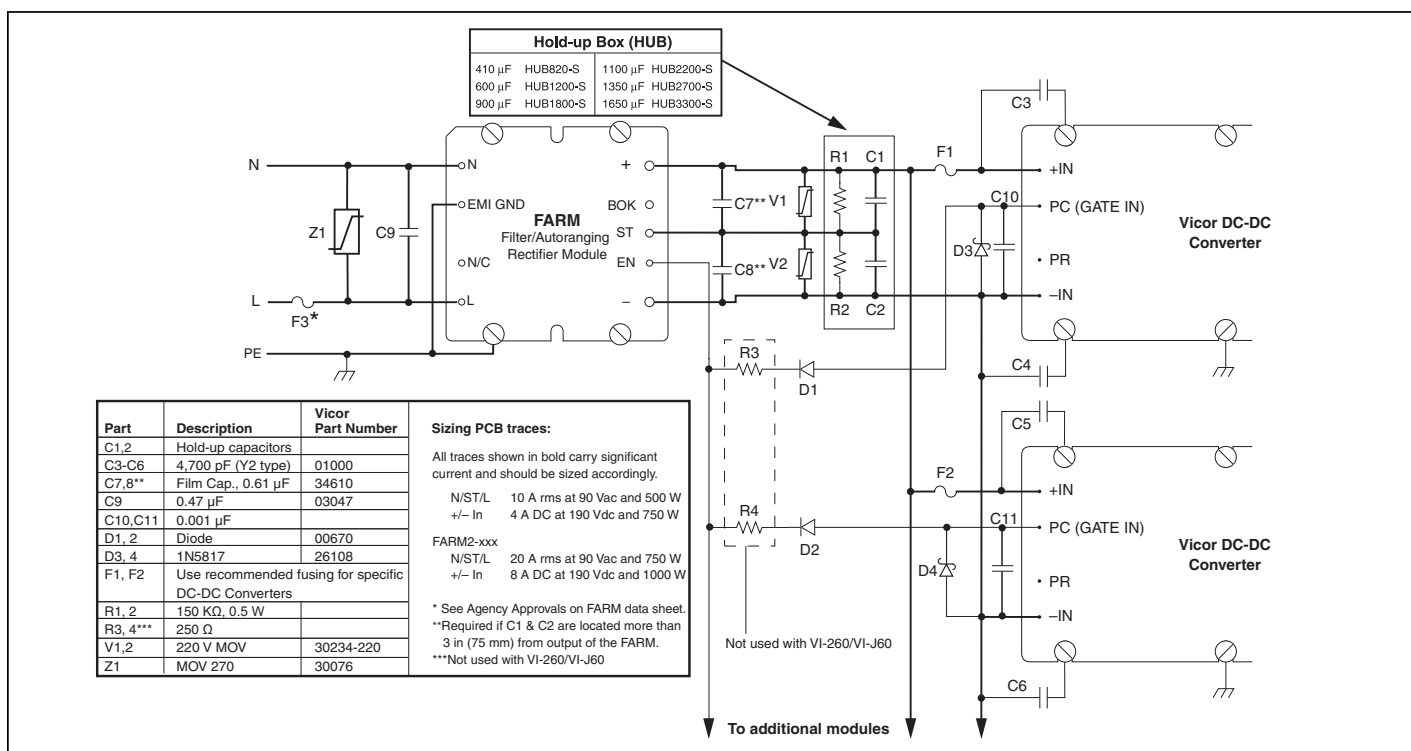

Figure 9 — Offline Power Supply Configuration
Strap (ST) Pin. In addition to input and output power pin connections, it is necessary to connect the Strap pin to the center junction of the series hold-up capacitors (*C1, C2, see Fig. 9*) for proper (autoranging) operation. Metal oxide varistors, *V1* and *V2* provide capacitor protection. The bleeder resistors (*R1, R2, see Fig. 9*) discharge the hold-up capacitors when power is switched off. Capacitors *C7* and *C8* are recommended if the hold-up capacitors are located more than 3 inches (75 mm) from the FARM output pins.
It should be noted that the series combination ($C1$, $C2$, see Fig. 9) requires each capacitor to be twice the calculated value, but the required voltage rating of each capacitor is reduced to 200 V. Allowable ripple voltage on the bus (or ripple current in the capacitors) may define the capacitance requirement. Consideration should be given to converter ripple rejection and resulting output ripple voltage.